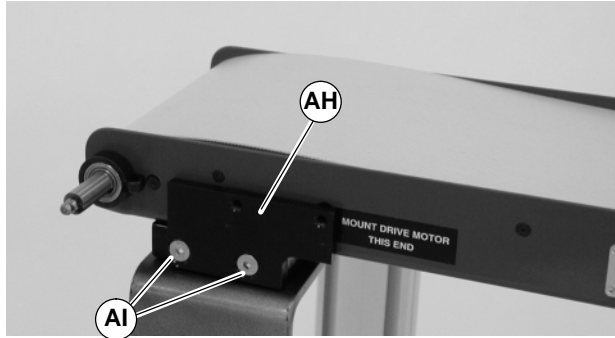

Figure 17
- 1b. If tension pins are located on drive side, remove gearmotor mount. Remove screws (AI of Figure 17) and mounting plate (AH).